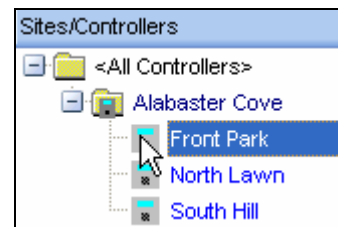

Figure 20.0.6
3. From the controller list click on a controller to highlight it (Figure 20.0.6).